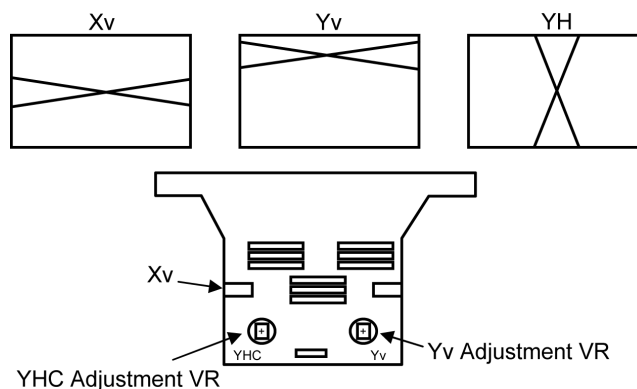

Fig. 2
b. YHC, YV, XV Adjustment (Fig. 2)
- a. Adjust that static and Dynamic convergence is best with YHC VR, YV VR and XV coil. In case of static convergence is tilted, repeat (1) Static Convergence Adjustment.